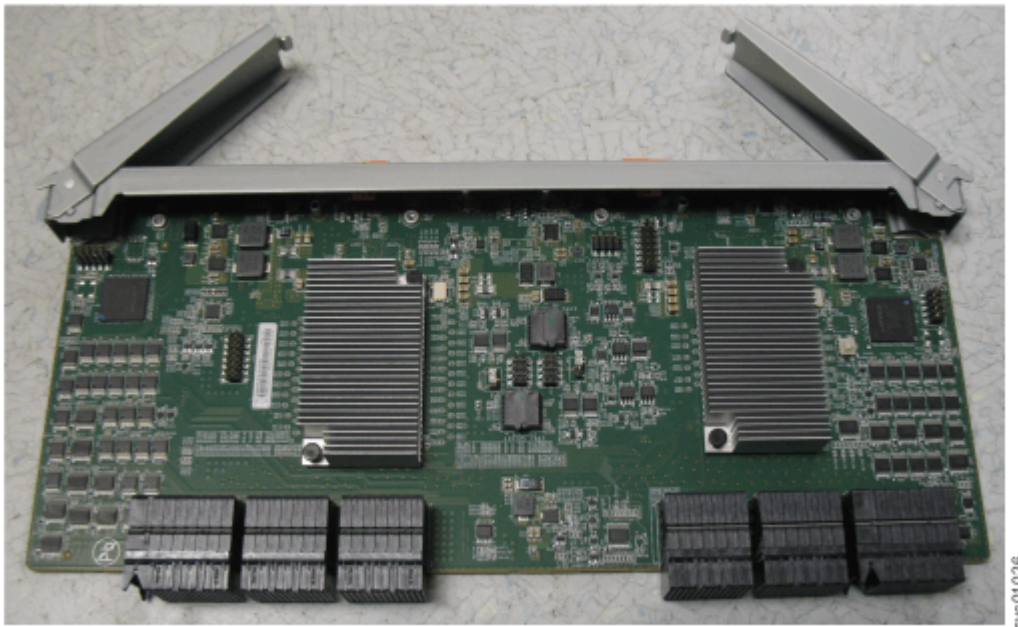

Figure 135. Secondary expander module removed from the enclosure
5. Place the secondary expander module in a safe location, as shown in Figure 135 on page 186.